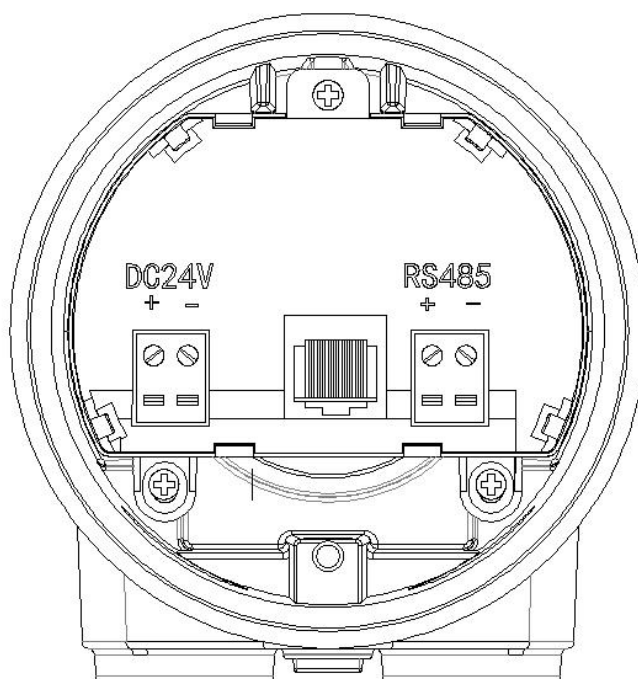

Figure 2. Radar Level Transmitter interface figure
- Radar Level Transmitter interface figure is shown as in Figure 2.